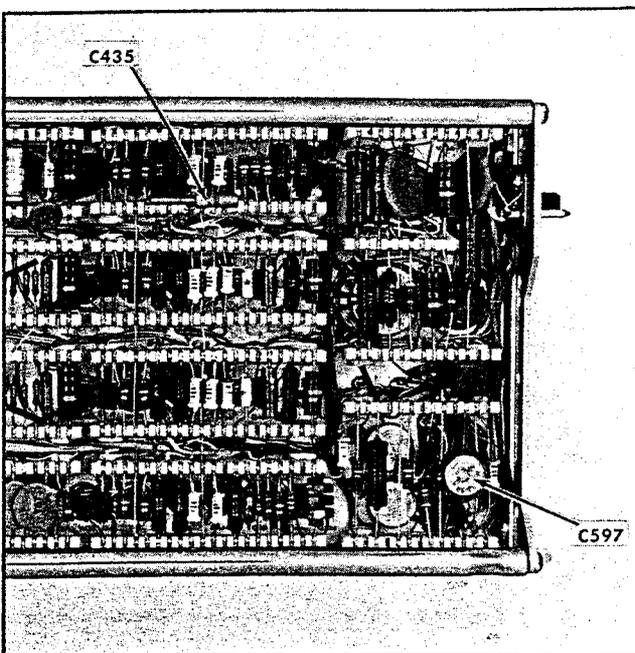

Fig. 7-9. Location of Channel 1 Trigger noise adjustment (C435) and Chopped Blanking pulse adjustment (C597).
- e. Adjust C435 (Fig. 7-9) for minimum display amplitude on the test oscilloscope.
- i. Adjust C597 (Fig. 7-9) in increments of  $\frac{1}{4}$  turn, removing and replacing the plug-in as often as necessary, until the pulse amplitude is 35 volts. Do not use the flexible extension for this measurement, as the pulse amplitude may be reduced as much as 50% with the plug-in out of the oscilloscope.